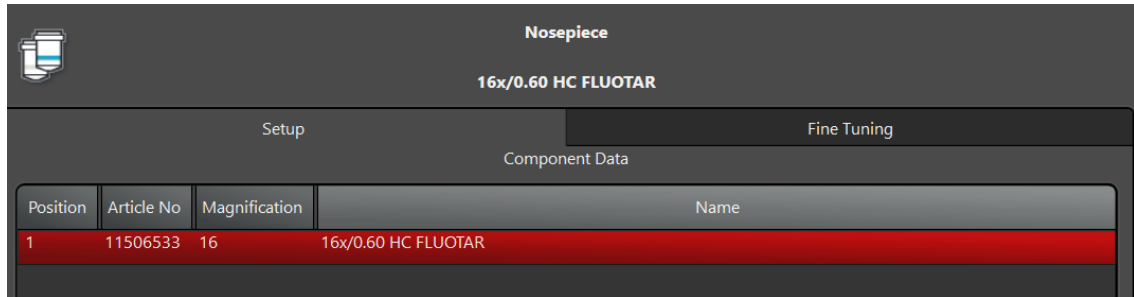

Figure 8
6. Double click on the objective to select it for use. If the objective has been properly selected, it will appear in the window at the top of the screen. See Figure: 8